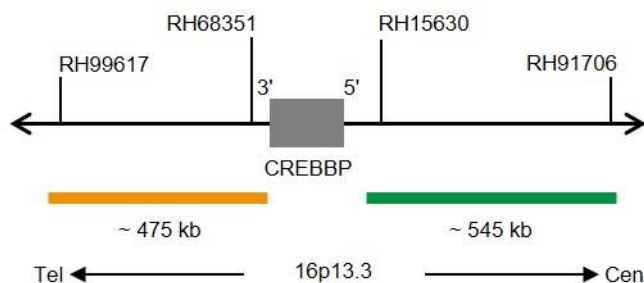

Fig. 1: SPEC CREBBP Probe map (not to scale)
- ZyGreen (excitation 503 nm/emission 528 nm) labeled polynucleotides (~10.0 ng/μl), which target sequences mapping in 16p13.3* (chr16:3,978,217-4,521,684) proximal to the CREBBP breakpoint region (see Fig. 1).
- ZyOrange (excitation 547 nm/emission 572 nm) labeled polynucleotides (~4.5 ng/μl), which target sequences mapping in 16p13.3* (chr16:3,287,067-3,762,188) distal to the CREBBP breakpoint region (see Fig. 1).